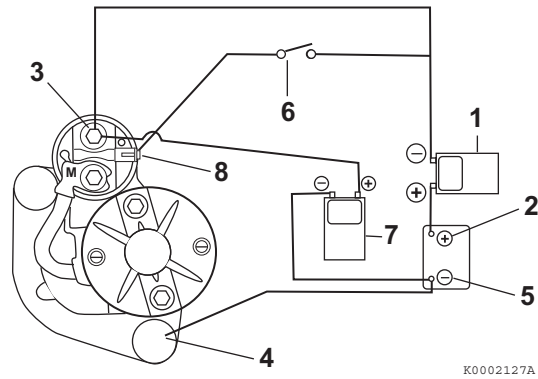

Figure 11-35
- Connect an ammeter **(Figure 11-35, (1))** in series between the battery positive (+) terminal **(Figure 11-35, (2))** and the main positive (+) terminal **(Figure 11-35, (3))** on the starter motor.
- Connect a wire lead between the mounting base of the starter motor **(Figure 11-35, (4))** and the battery negative terminal **(Figure 11-35, (5))**.
- Connect a voltmeter **(Figure 11-35, (7))** to the battery negative (-) terminal **(Figure 11-35, (5))** and the main positive (+) battery terminal **(Figure 11-35, (3))** on the starter motor.
- Install a switch **(Figure 11-35, (6))** in a circuit between the battery positive (+) terminal **(Figure 11-35, (2))** and the starter magnetic switch (solenoid) terminal **(Figure 11-35, (8))** on the starter motor.